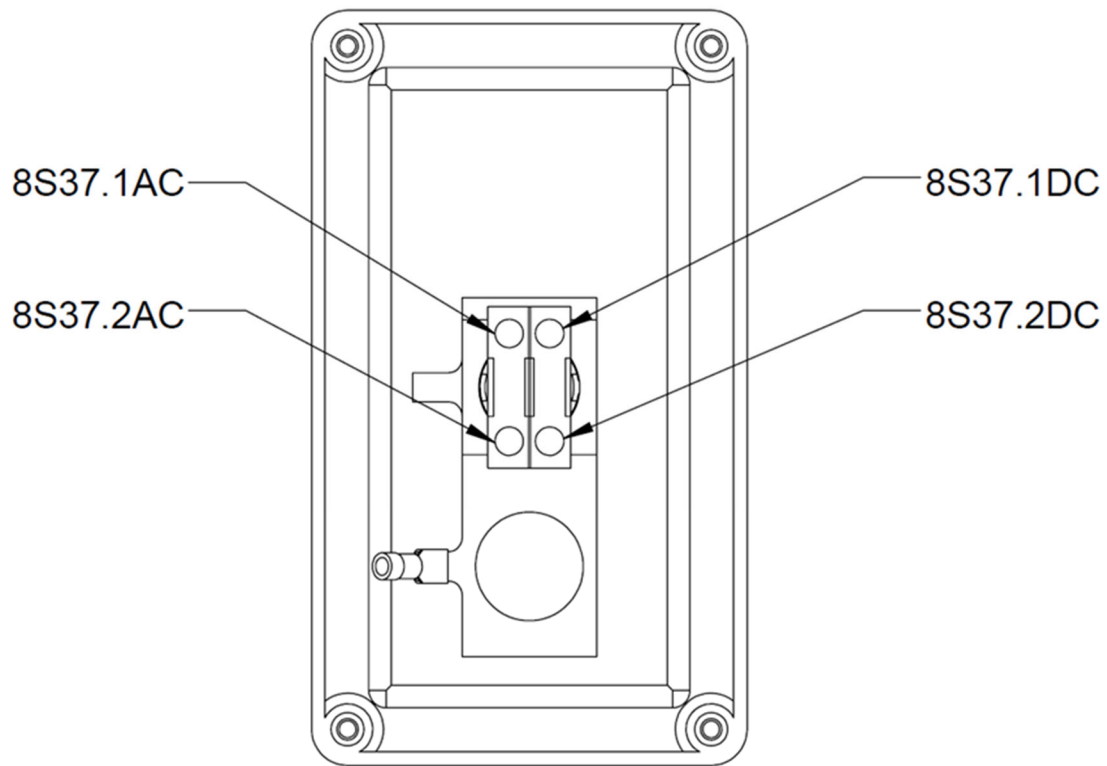

Figure 147 - Terminal Designations for 60Hz System-Stop Button
- Terminal numbers are shown in Figure 147 for PDQ Part No. 11010113.